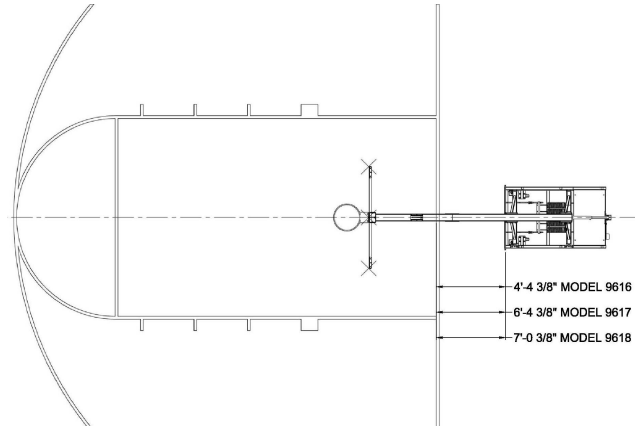

Figure 7
14. Push the unit to the playing location on the court. The unit should be centered on the centerline of the court as shown in figure 7. From the inside edge of the court baseline to the front of the frame cross tube should be about 4'-4 3/8" for the model 9616, 6'-4 3/8" for the model 9617, and 7'-0 3/8" for the model 9618.